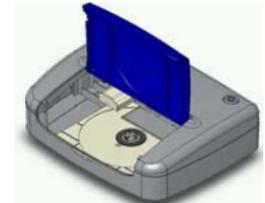

Figure 6
- Always maintain the print head in clean condition. For cleaning, use a cotton swab moistened with alcohol or commercially available cassette tape recorder head cleaning kit to clean the print head (Refer to Figure 6)